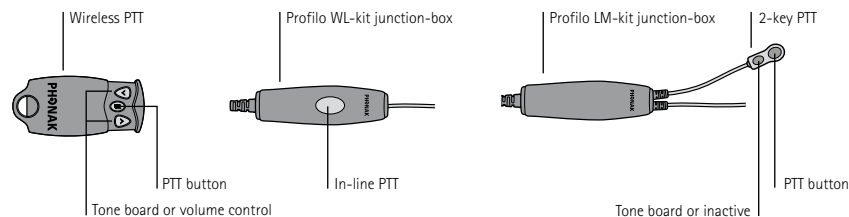

Figure 8
- Press the In-line PTT, the 2-key PTT, or use the PTT function from the wireless PTT paired to the junction-box to activate the microphone (figure 8).